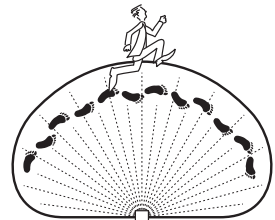

Figure 8
3. Walk through the coverage area noting where you are when the lights turn on. Also, the LED indicator behind the motion sensor lens will glow blue when motion is detected (see Figure 8).